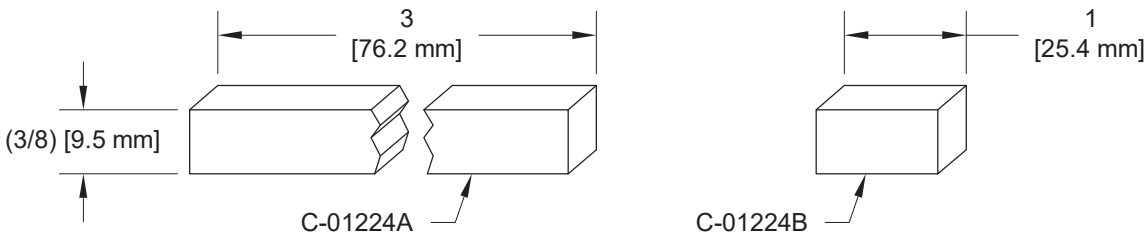

FIGURE 3: FABRICATE LATCH SEALS
Step 6: Fabricate one C-01224A and two C-01224B Latch Seals from SEAL-00003 FOAM PVC .375X.625 per Figure 3.